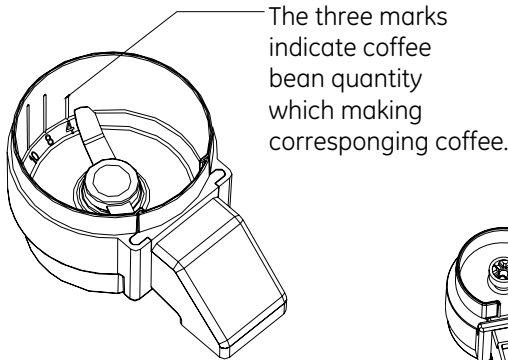

Fig.1
1. Add beans: Open the tank cover by pushing the release button and lifting up. Remove inner lid, unscrew the grinder box lid and remove grinder box. Fill the grinder box with the desired quantity of beans according to the marks on the inside of grinder box (see fig.1). Do not fill the grinder box with more than 60g/2 oz. of beans.